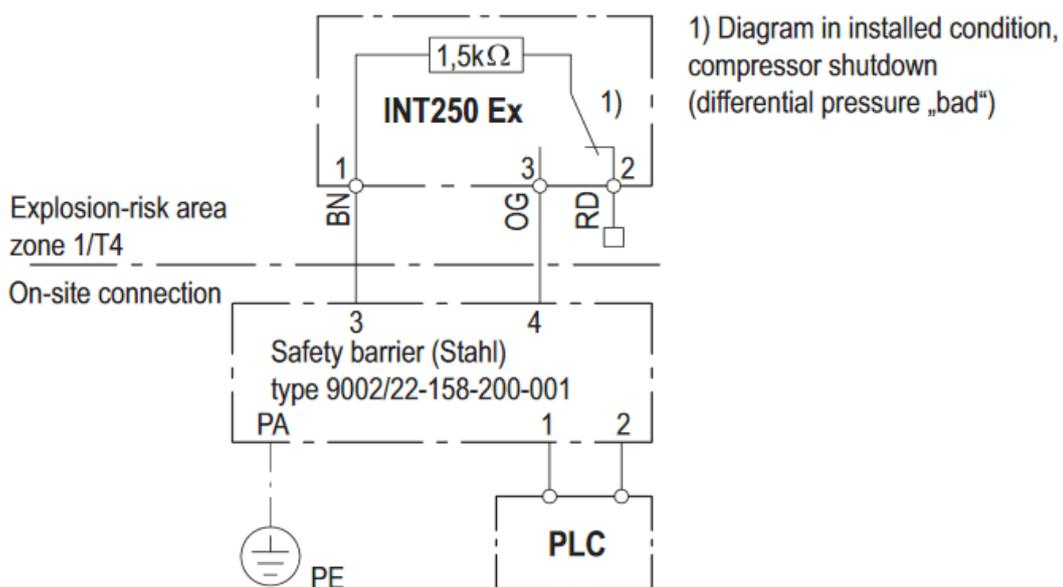

Fig. 28 Connecting electrical scheme INT250Ex
- ✓ connect to the control system (see Fig. 28).
- ✓ connect to the control system (see .Fig. 28).